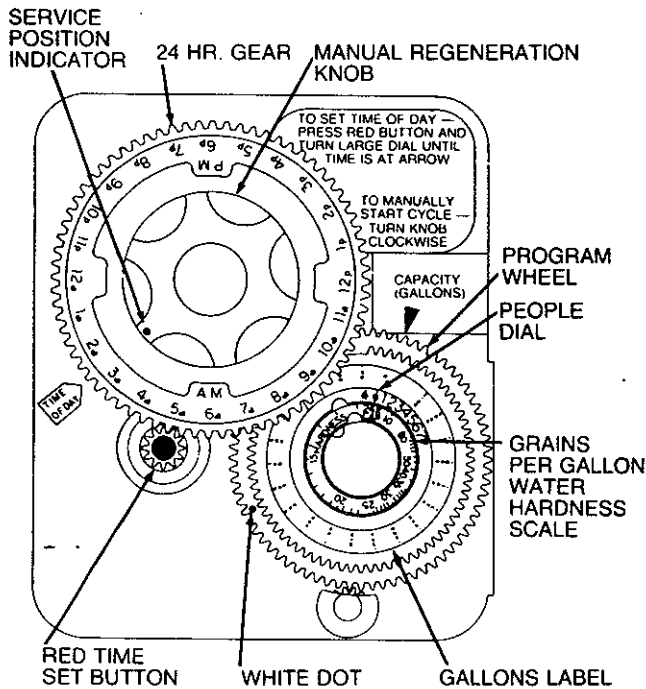

Figure 1
2. The control valve **must be in the SERVICE position!** If needed, rotate manual regeneration knob on time clockwise until white dot aligns with raised time of day arrow. (See Figure 1.)
1. The control valve **must be in the SERVICE position!** If needed, rotate manual regeneration knob on timer clockwise until white dot aligns with raised time of day arrow. (See Figure 1.)
- Step 8** Locate the program wheel just to the lower right of the manual regeneration knob. (See Figure 1.)
- Step 9** Rotate program wheel until the white dot located on the outermost gear is aligned with the capacity (gallons) arrow on the timer. (See Figure 1.)
- Step 11** Lift out the "center" dial and rotate it so that the capacity arrow is aligned to the gallons of water that will be used between each regeneration as shown on the gallons label located outside the "center" dial. (See Figure 1.)
- 1. Depress the red button on lower left side of valve timer door. (See Figure 1.)